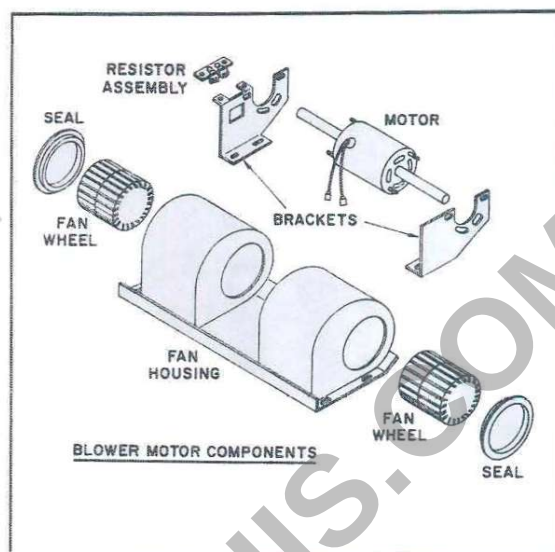

FIGURE 9-40
3. Remove the fan rotor, Figure 9-40.